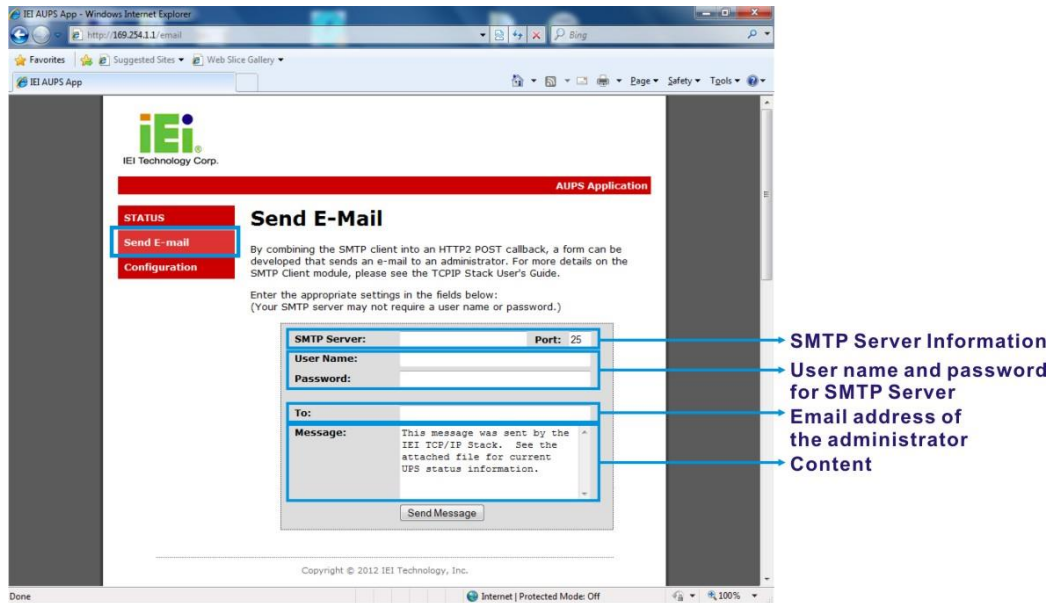

Figure 4-23: Remote Management Web Interface - Send Email
Step 6: To send an email to an administrator through the SMTP server, click **Send E-mail** button on the left. Fill out the information as indicated in **Figure 4-23**. Click the **Send Message** button to send the email.